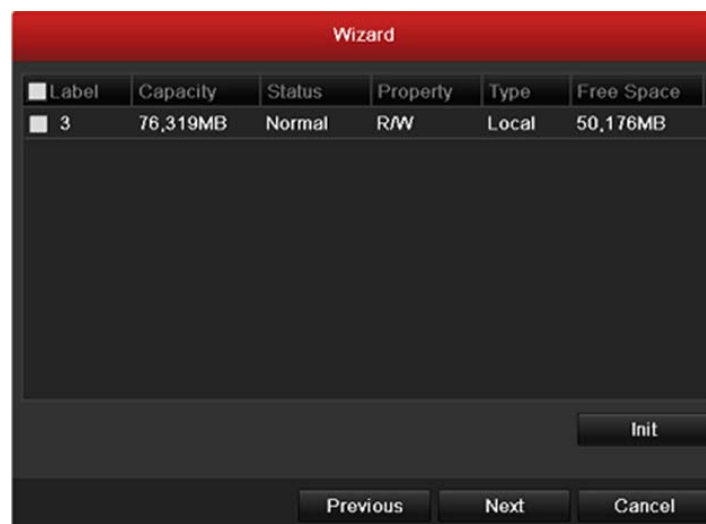

Figure 2.5 HDD Management
7. Click **Next** button after you have configured the network parameters. This will take you to the **HDD Management** window, shown in Figure 2.5.